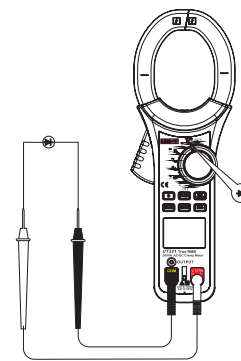

Figure 6
4. Diode test (▶▶) (See Figure 6)